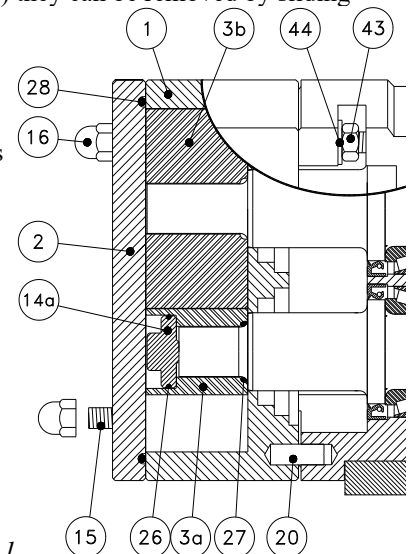

Figure 4.4.1
Loosen the **Stud Nuts** (item 43 in **Figure 4.4.1**). Remove the **Rotor Housing** by pulling on the ports or by tapping gently with a rubber mallet. Do not rock the **Rotor Housing** back and forth excessively. The seals may break. The **Seal Retaining Rings**, the **Bolts**, the **Stationary Seal Faces**, and the **Stationary Seal O-Rings** will all come off with the **Rotor Housing**. Unscrew the **Bolts** to remove the **Seal Retaining Rings**, the **Stationary Seal Faces**, and the **Stationary Seal O-Rings**. Slide the **Rotating Seal Faces** and the **Rotating Seal O-Rings** off the shafts. To avoid damage, handle and store the loose **Stationary Seal Faces** and **Rotating Seal Faces** so that their lapped sealing surfaces do not get scratched. If not being replaced, the **Drive Collars** may remain on the shafts, otherwise loosen the set screws and slide them off the shafts. UNIBLOC-PD 500 Series may use wear sleeves. See section 4.4.4.1 sketch.
Remove the **Shaft O-rings** (item 27 in Figure 4.4.1) located behind the shaft splines. Use two long flat head screwdrivers 180° apart to pry the **Shaft Sleeve** out of the **Rotor Housing**. Use razor blade or sharp flat head screwdriver to remove the **Rotating Seal Face** from the **Shaft Sleeve**. Remove **Stationary Seal Face** from **Seal Retaining Ring** by hand.
Place the **Rotating Seal O-Ring** on the stepped side of the **Rotating Seal Face** and lubricate. While aligning the **Rotating Seal Face** pin slots with the Shaft sleeve pins, hand press the **Rotating Seal Face** into the **Shaft Sleeve** until fully seated. Lubricate the **Shaft Sleeve O-Ring** located in the inner diameter of the **Shaft Sleeve**. Aligning the pin slots on the **Shaft Sleeve** with the pins on shaft (item 90 in Figure 4.4.1), hand press the Shaft Sleeve(with Rotating Seal installed) evenly until seated and spring tension can be felt. Spring tension will be set by installation of rotor onto shaft.
Place the **Rotating Seal O-Ring** on the stepped side of the **Rotating Seal Face** and lubricate. While aligning the **Rotating Seal Face** pin slots with the Shaft sleeve pins, hand press the **Rotating Seal Face** into the **Shaft Sleeve** until fully seated. Lubricate the **Shaft Sleeve O-Ring** located in the inner diameter of the **Shaft Sleeve**. Aligning the pin slots on the **Shaft Sleeve** with the pins on shaft (item 90 in Figure 4.4.1), hand press the Shaft Sleeve (with Rotating Seal installed) evenly until seated and spring tension can be felt. Spring tension will be set by installation of rotor onto shaft.
Disconnect the flush tubing from the flush housings (55). Loosen the set screws (D) by inserting an allen wrench into the flush housing port holes. Loosen the stud nuts (item 43 in Figure 4.4.1). Remove the rotor housing (1) by pulling on the ports or by tapping gently with a rubber mallet and lay it rotor cavity down so that the seals face up. Do not rock the housing back and forth excessively or let it come in contact with the shaft splines. The seals may break. The entire seals with the flush housings will come off intact with the rotor housing. Unscrew the bolts (32) to remove the flush housings (55), the lip seals (56), and the flush housing o-rings (37). The remaining seal components may now be removed. To avoid damage, handle and store the loose seal nose rings (B) and the mating rings (A) so that their lapped sealing surfaces do not get scratched. To remove the lip seals (56), place the flush housings so that they are supported at the bolt holes not at the o-ring (37) location. This can be done by placing the flush housings, after all other seal parts have been removed, back into the rotor housing seal bores. Push or tap the lip seals with a tube to remove them.
Disconnect the flush tubing from the **Flush Housings**. Loosen the **Drive Collar** set screws by inserting an allen wrench into the flush housing port holes. Loosen the stud nuts (item 43 in Figure 4.4.1). Remove the rotor housing (item 1 in Figure 4.4.1) by pulling on the ports or by tapping gently with a rubber mallet and lay it rotor cavity down so that the seals face up. Do not rock the housing back and forth excessively or let it come in contact with the shaft splines. The seals may break. The entire Seal Package, with the Flush Housings attached, will come off with the rotor housing. Unscrew the **Bolts** to remove the **Flush Housings**, the **Stationary Seal Faces (secondary)**, **Flush Housing O-Rings**, and **Stationary Seal O-Rings (secondary)**. The remaining seal components may now be removed. To avoid damage, handle and store the loose Seal Faces so that their lapped sealing surfaces do not get scratched. Remove the **Stationary Seal Faces (primary)** by pulling them out of the rotor housing seal bores. Remove the **Stationary Seal Faces (secondary)** by pushing them out of the **Flush Housings**.
Loosen the stud nuts (item 43 in Figure 4.4.1). Remove the rotor housing (item 1 in Figure 4.4.1) by pulling on the ports or by tapping gently with a rubber mallet. The entire seal with all components will come off attached to the rotor housing. Remove the **Bolts** and **Seal Retaining Rings**. Pull the **Double O-Lip Seal Cartridges** out of the rotor housing bores. If optional sleeve is used, sleeve will be removed with cartridge.
If using a flushing system as discussed in section 3.3, disconnect it from the **Flush Housings**. Loosen the stud nuts (item 43 in Figure 4.4.1). Remove the **Rotor Housing** by pulling on the ports or by tapping gently with a rubber mallet. All seal parts will come off with the housing. Remove the **Flush Housings** by unscrewing the **Bolts**. The **Retaining Ring O-Rings** and **Seal O-Rings** can now be removed.